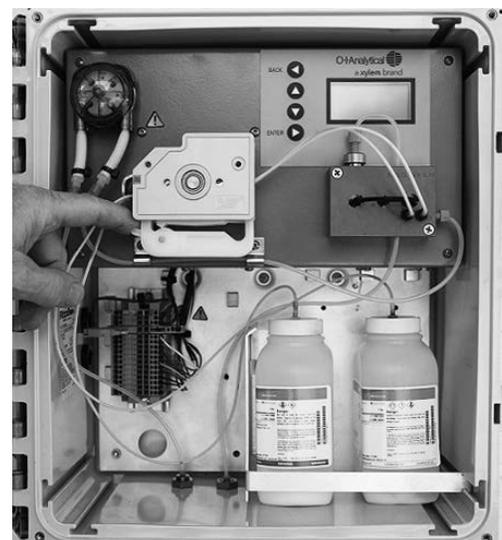

Figure 6.4 Completed reagent tube installation and platen tensioning
14. Hold a pump tube so that the locking tab (blue tab) is in your left hand. Attach the end in your right hand to the reagent port marked (B). This will be the port closest to the right-hand-side of the enclosure.
19. See **Figure 6.4**.